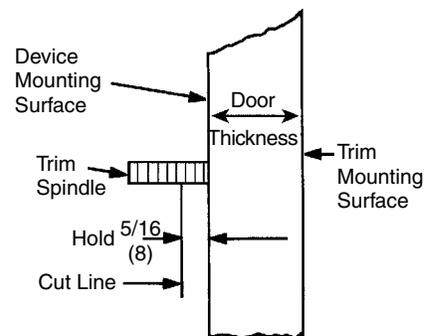

Figure 6
7. Cut trim spindle as shown. (Figure 6)